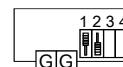
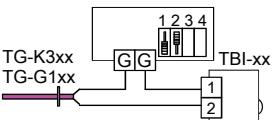

Figure 2 Switch setting for internal setpoint and sensor.
Figure 6 Switch setting and wiring using external, separate sensor and potentiometer TBL-xx as setpoint.
- Terminals G and G = External sensor and setpoint, not polarity sensitive (*Figure 2 -Figure 6*)